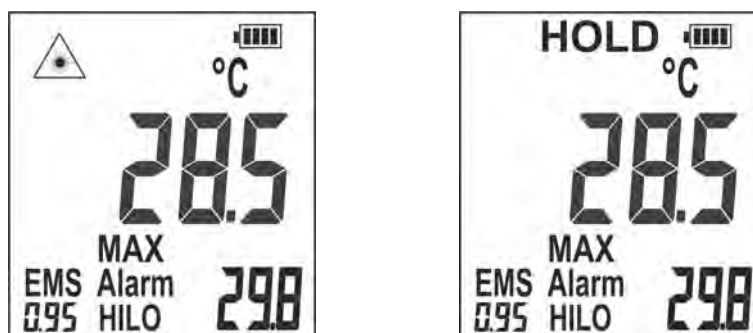

Fig. 18: Display of measured values
7. Release the Trigger key **T** to stop measuring and freeze the last read value. The symbol "" disappears and the message "HOLD" is shown on the display (see Fig. 18).